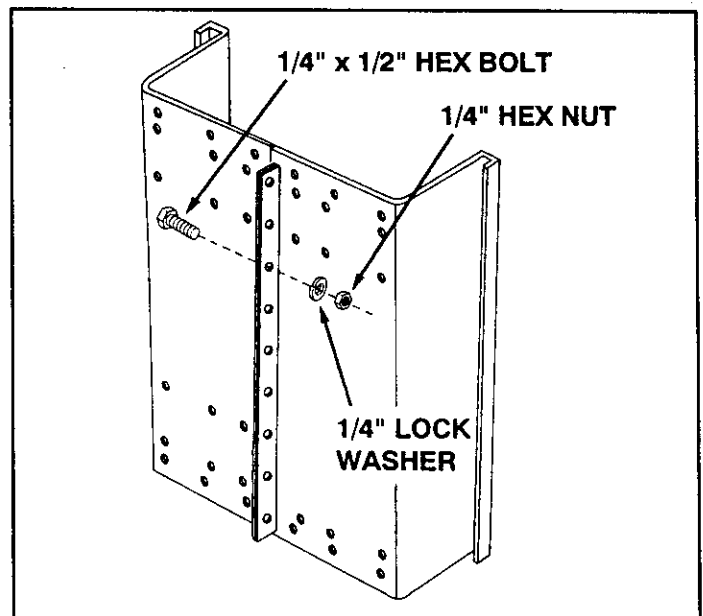
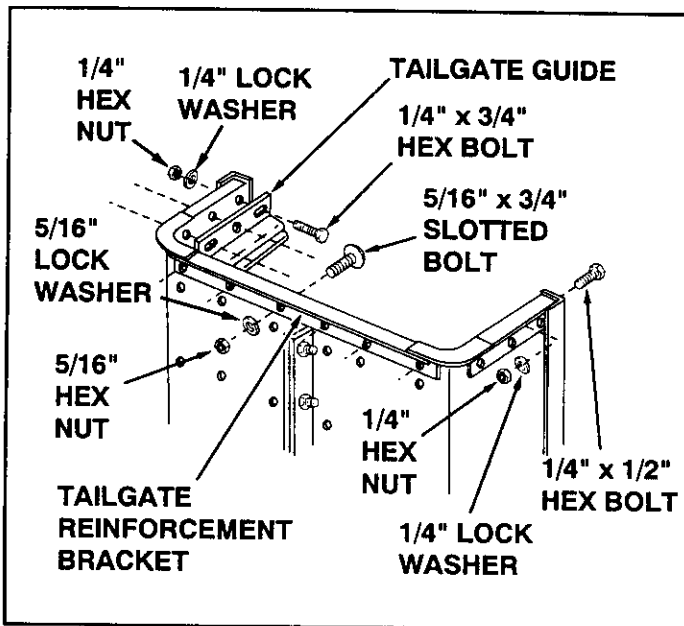

FIGURE 1
FIGURE 2
- Assemble halves together using nine 1/4" x 1/2" hex bolts, 1/4" lock washers and 1/4" hex nuts as shown in figure 1. **Do not tighten at this time.**
- Position cart body halves upright on a smooth level surface such as a garage floor or a paved driveway. See figure 1.
- Position the tailgate reinforcement bracket on outside of cart as shown in figure 2. Assemble to the bottom of the cart body using six 5/16" x 3/4" slotted bolts, 5/16" lock washers and 5/16" hex nuts. **Do not tighten.** See figure 2.
- Position the tailgate guides on the inside of the cart bodies as shown in figure 2 (bolt holes to the rear). Assemble to the cart using six 1/4" x 3/4" hex bolts, 1/4" lock washers and 1/4" hex nuts. **Do not tighten.**
- Assemble two 1/4" x 1/2" hex bolts, 1/4" lock washers and 1/4" hex nuts down through the top rear corners of the cart. **Do not tighten.** See figure 2.
- **Tighten** the six slotted bolts assembled in figure 2. **Tighten** the eight hex bolts assembled in figure 2. **Tighten** the nine hex bolts assembled in figure 1, keeping the bottom of the cart body halves even.